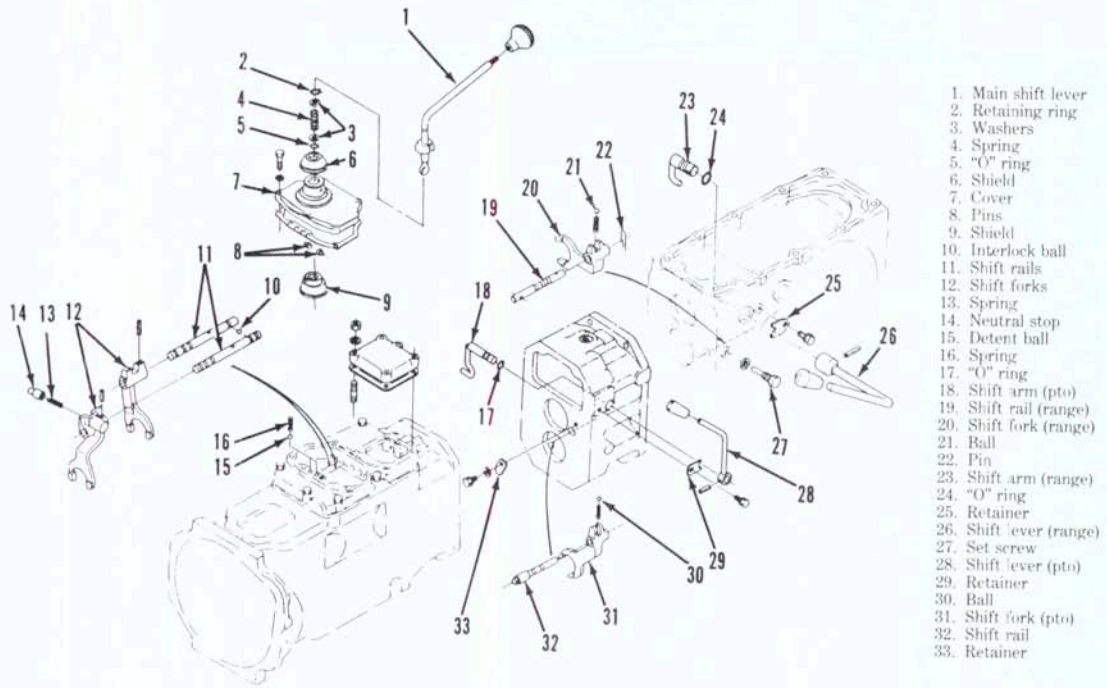

Fig. 109—Exploded view of shift rails, forks and associated parts used on Model L355.
80. R&R AND OVERHAUL. Shift rails, forks and associated parts are shown in Fig. 109. To remove main shift housing, shift transmission into neutral and unbolt and remove shift cover and housing. Remove shift lever knob and retaining ring (2), then withdraw shift lever (1) from bottom of cover (7). Remove detent springs and balls (15) and drive spring pins out of shift forks (12). Remove shift rails (11) rearward and withdraw forks.